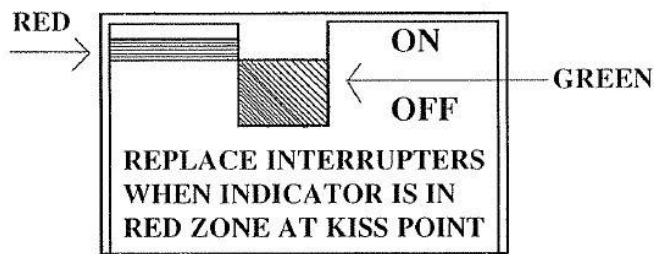

Fig. 10
Connect continuity leads to line and load terminals of phase L1, with contactor de-energized using ¼ hexagon Allen Wrench on shaft. Close contactor normally until continuity is made. The green bar “must not” be in the Red Zone, when continuity is made (see Fig. 10). If it is, electrical life is exhausted. Proceed to phase L2, phase L3 and repeat to complete the contactor test. If any test allows the indicator to fall in the Red Zone before continuity is made, then the interrupter being tested requires replacement.
- Contact wear measurement (See Contact Wear Measurement Fig. 10).